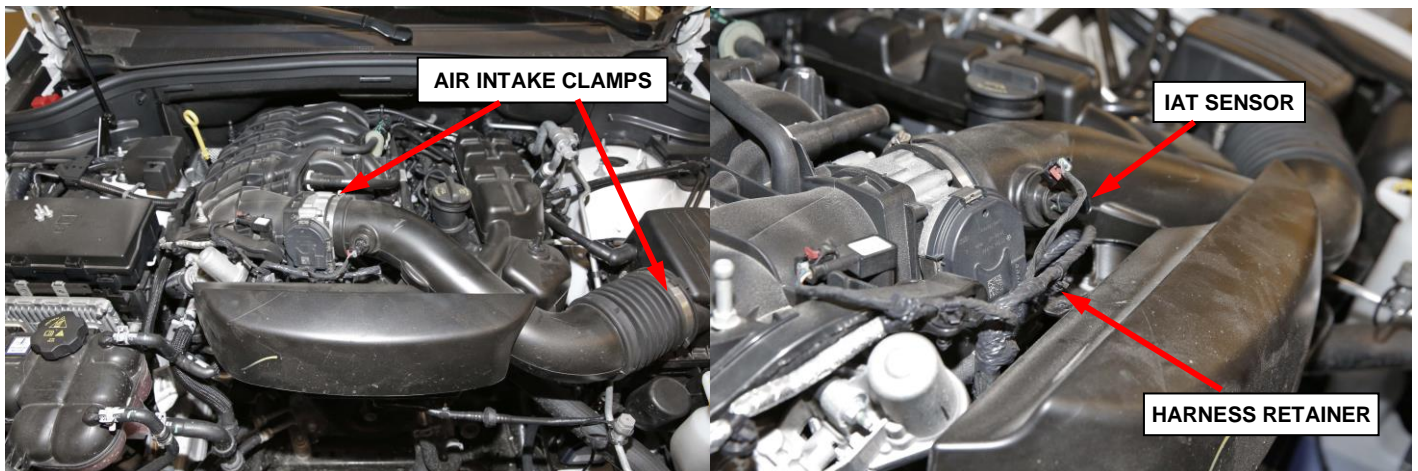

Figure 6 – Air Inlet Hose Clamps and IAT Sensor Wiring
8. Loosen the clamps for the air inlet hose at the throttle body and air filter housing (WD and WK vehicles) (Figure 6).
9. Disconnect the Intake Air Temperature (IAT) sensor connector, and the barbed fastener retaining the IAT harness to the air inlet hose (WD and WK vehicles) (Figure 6).
7. Connect the IAT sensor and secure the IAT sensor harness to the air inlet hose (WD and WK vehicles) (Figure 6).
8. Securely tighten the clamps on the air inlet hose at the throttle body and air filter (WD and WK vehicles) (Figure 6).